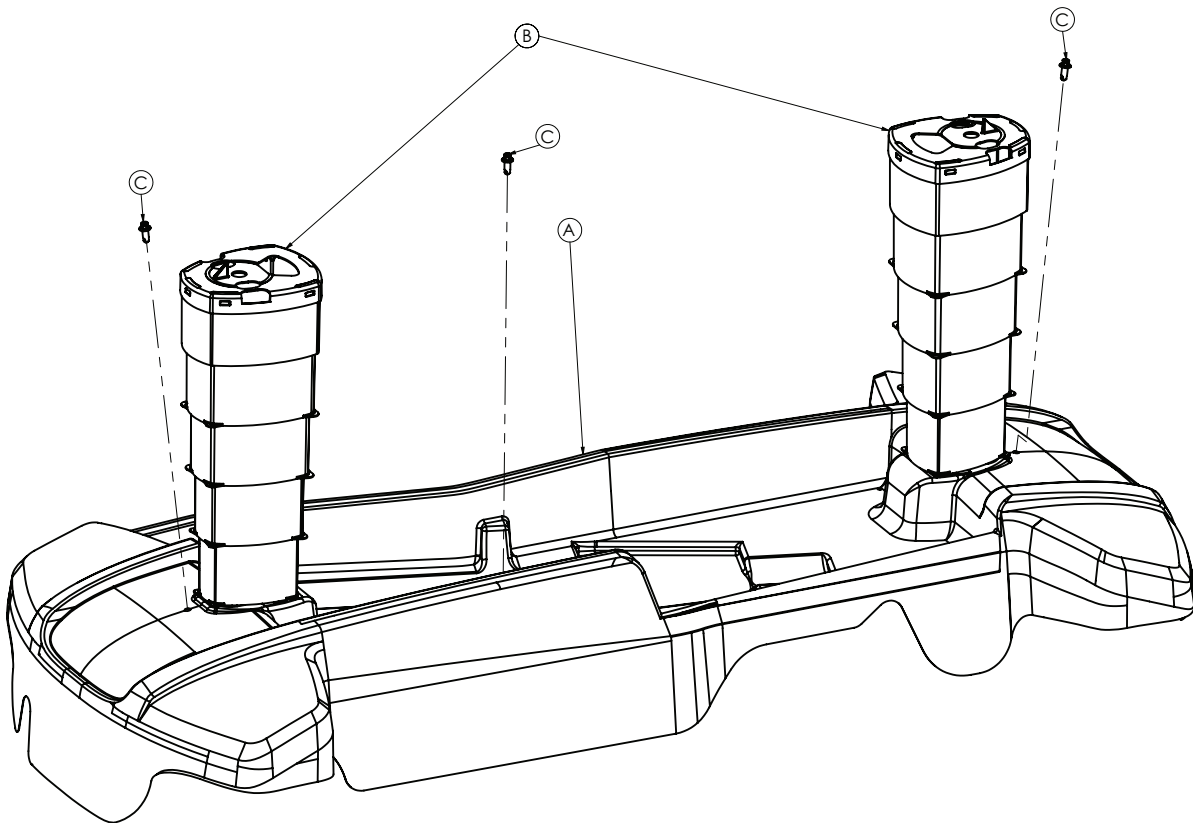

Figure 4 – Raising the hood
4. Use a #2 Phillips screwdriver to remove the flush head plastic rivet (C) that secure the base hood (A) to the hood retainer (Figure 4).
5. Use a #2 Phillips screwdriver to remove the flush head plastic rivet (C) that secure the base hood (A) to the hood retainer (Figure 4).
6. Remove and save the bellows (B), and discard the base hood (A) (Figure 4).